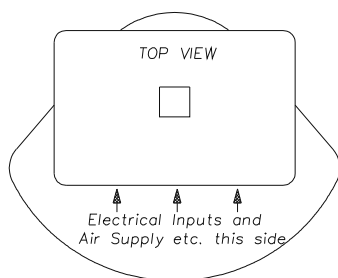

FIGURE 1. Mid Travel Orientation of Actuator Square and Positioner Box.
2.1.1 For double acting actuators move actuator vane to mid travel position, with its output square as shown in Figure 1. For spring return units the actuator vane is normally at one end of travel, therefore it is necessary to align the positioner coupling correctly with the actuator vane. It is essential that the two shafts are correctly oriented relative to each other, since if they are 90 degrees out, the quadrant wheel can be forced too far and damage done to the drive mechanism during subsequent actuator movements.